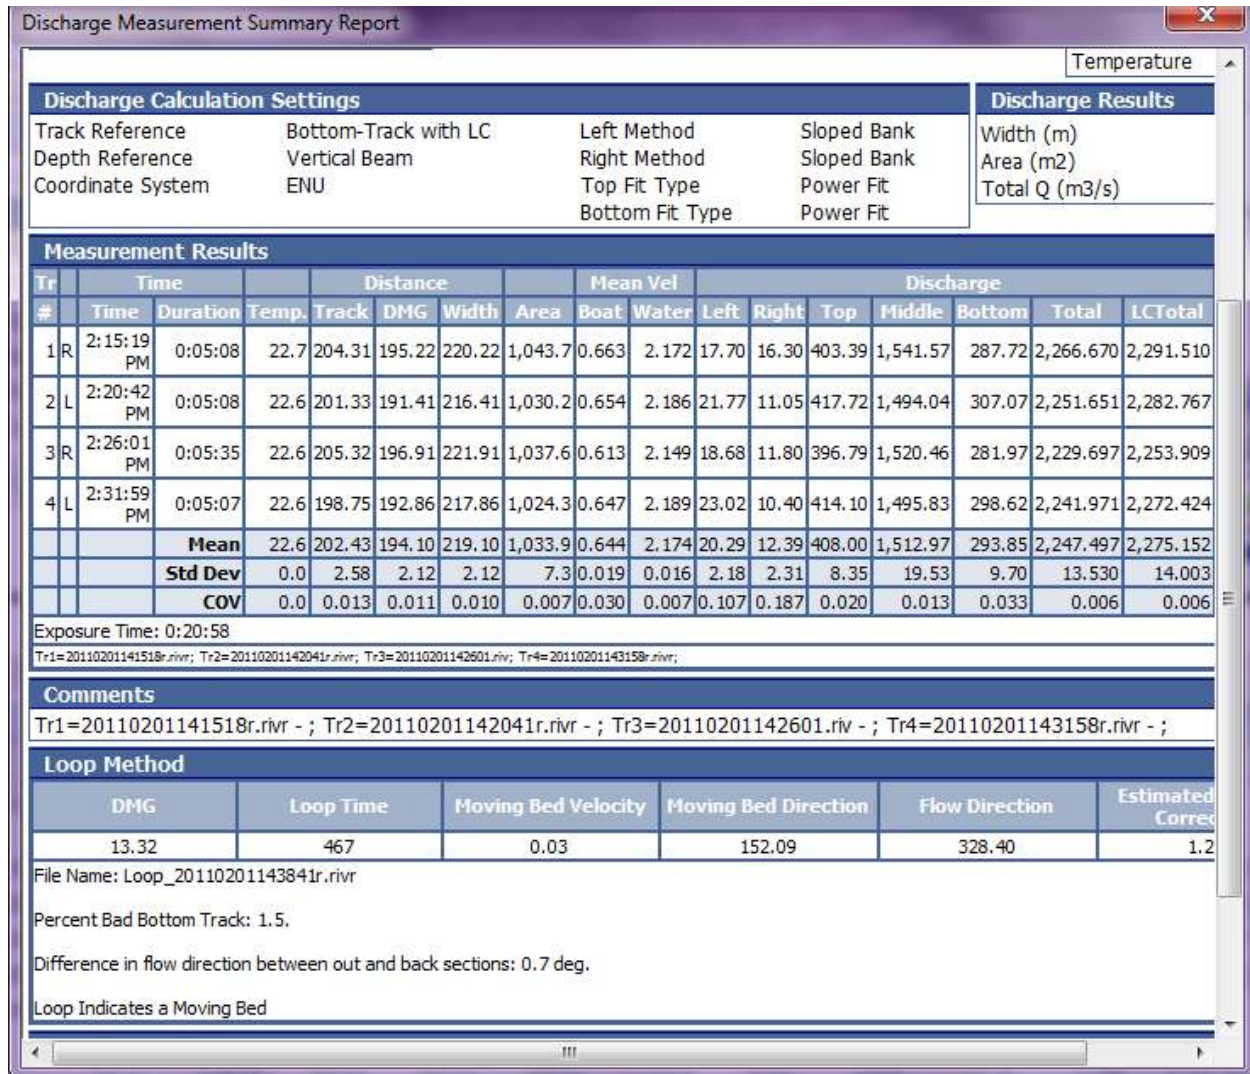

Figure 136. Discharge Summary Report
7. Click the **Discharge Summary Report** icon under the Discharge Summary table to generate the final discharge summary report. The final report will display the entire Loop Method analysis along with measured and loop corrected discharge values as shown in Figure 136: